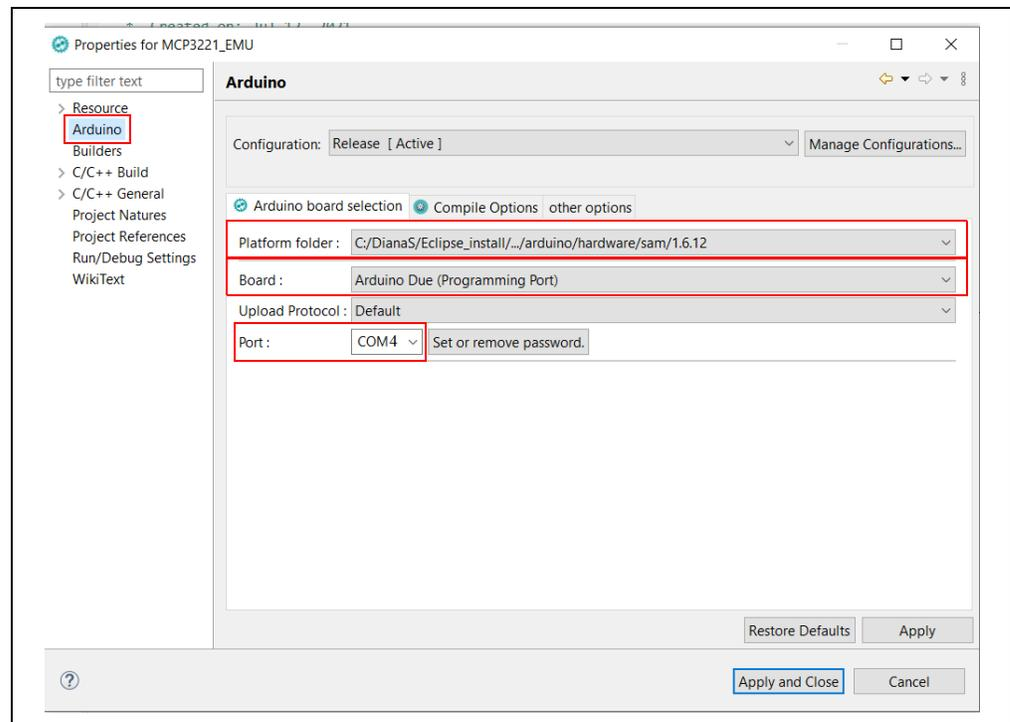

FIGURE 4-4: Eclipse IDE – Sloeber Settings.
4. In the Board drop-down menu, select the Programming Port option, as seen in Figure 4-4: “Eclipse IDE – Sloeber Settings.”
5. In the Port drop-down menu, select the port used from the PC (in Figure 4-4, the example is COM4)